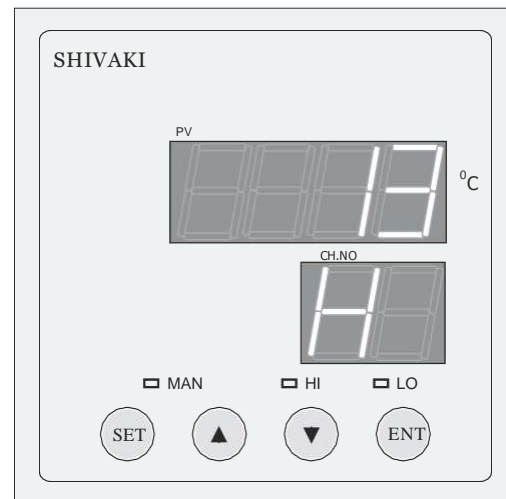

Fig. 1.6.2
Press the ENT key. Then the top display (PV) shows the presented Hour. The Bottom display shows the parameter "H". Use the  $\wedge$  &  $\vee$  keys to set the desired digit value (Hour). Range: 0 to 24 Hrs. Press ENT key. Refer Fig. 1.6.2